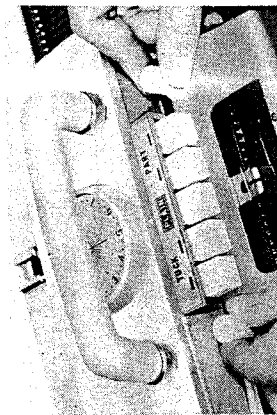

Fig. 20
2. Loosen the plastic thumb screws of the carriage. Remove the sinker plate and replace it in the part box. (See Fig 20)